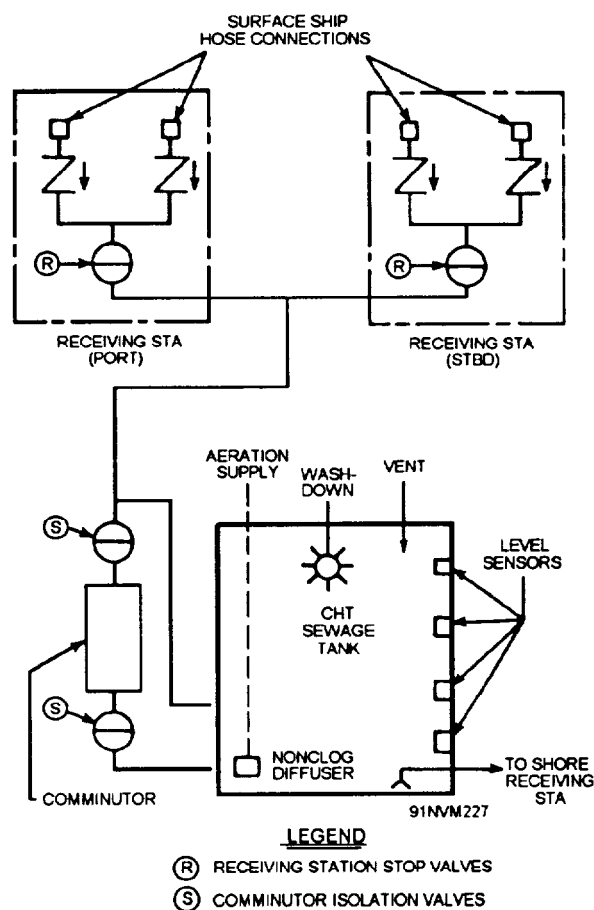

Figure 17-6.—Surface ship receiving system.
transferred from tended ships, sewage hoses must be connected to the tender sewage-receiving station according to the procedures previously discussed. Then, open tender receiving station stop valves (R) and comminutor isolation valves (S) (see fig. 17-6). The surface ship should then be advised that transfer operations may begin.